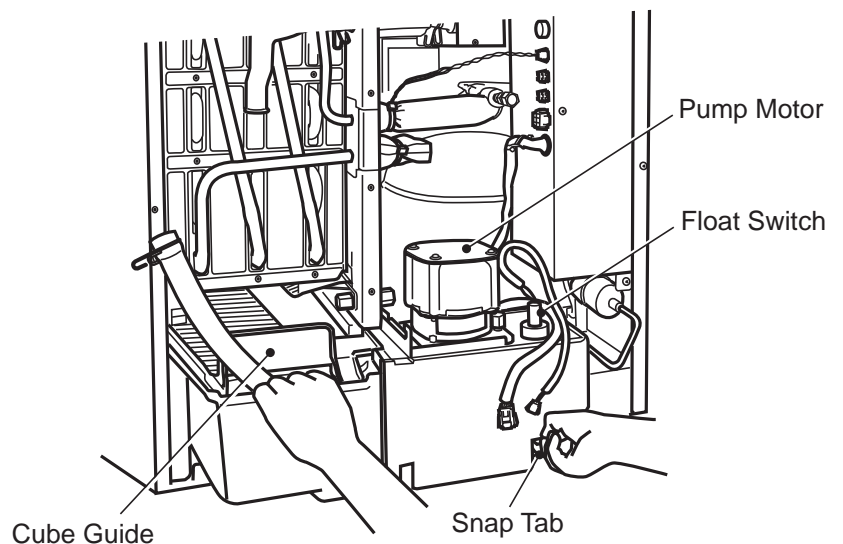

Fig. 4
- 5) While pushing up the snap tab at the right side of the pump motor bracket, pull out the water tank, cube guide, pump motor bracket, pump motor and float switch together. See Fig. 4.